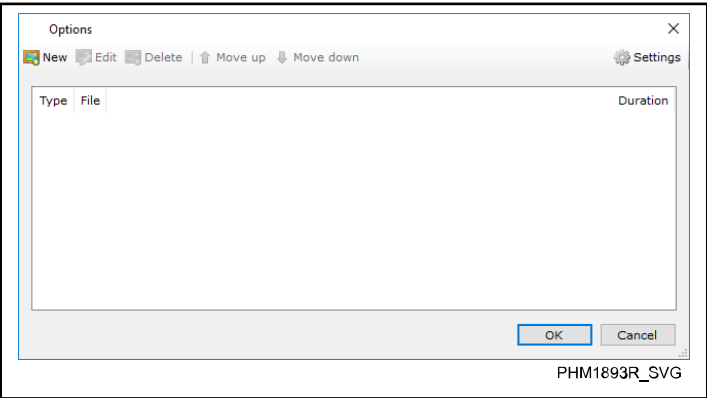

Figure 62
3. To customize the WashAlert TV Interface, from the "Tools" menu, select **Options**. The "Options" screen appears. Refer to *Figure 62*.